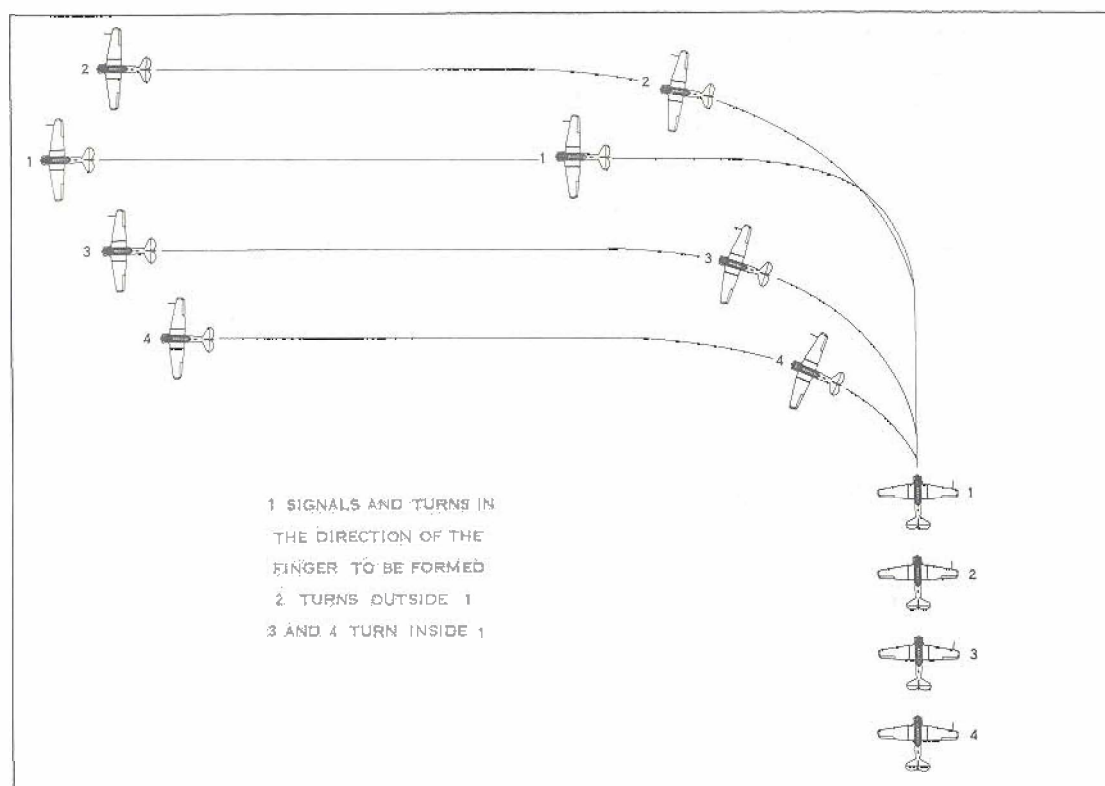

Figure 13: Reforming Finger from Line Astern
(7) **REFORMING FINGER FROM LINE ASTERN -** When the signal to reform Finger is given over the R/T, or by the leader rocking his wings and turning towards the Finger to be formed, Number Two applies power and takes up position on the OUTSIDE of the turn as described in Art 17.08. Numbers Three and Four turn inside Number One on an intercepting course, as shown in Figure 13 overleaf, and close-up to form the Finger.
(9) REFORMING FINGER FROM TRAIL - Before signalling the formation to reform a Finger from Trail, the leader should reduce power to normal cruising settings. This gives the other aircraft a reserve of power during the formation change so that they can catch up with the leader. To go into Finger, Number Two opens his throttle and moves under and outside Number One's turn, while Numbers Three and Four turn inside to intercept Number One. When all of the aircraft are together, they close-up to form a properly spaced Finger as shown in Figure 13.